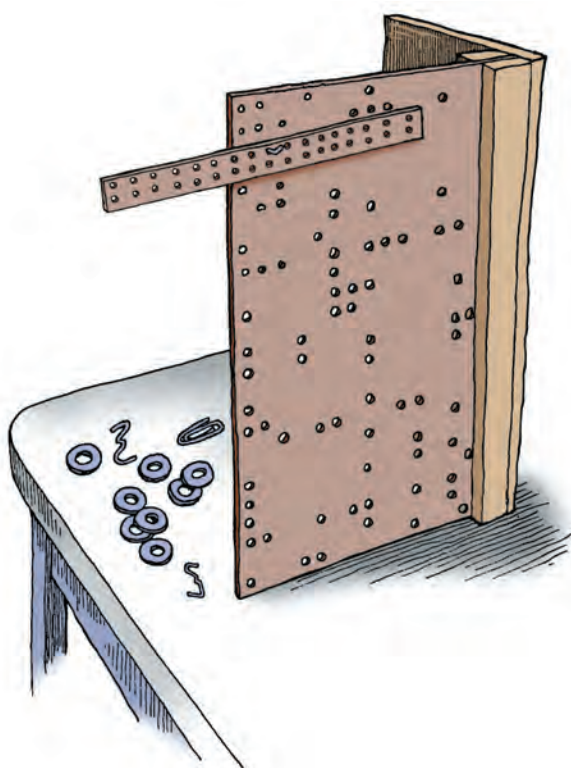

Figure 13.1 Pegboard and lever setup
2. Set up the pegboard and lever as shown in Figure 13.1.